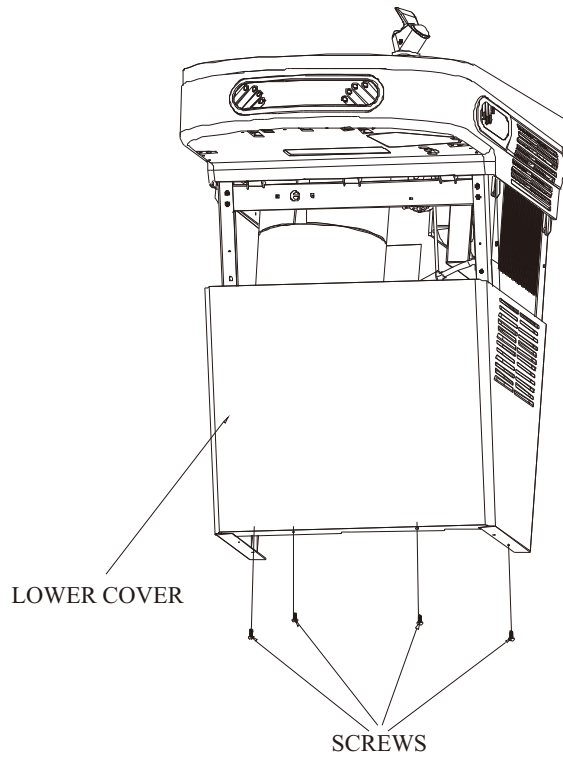
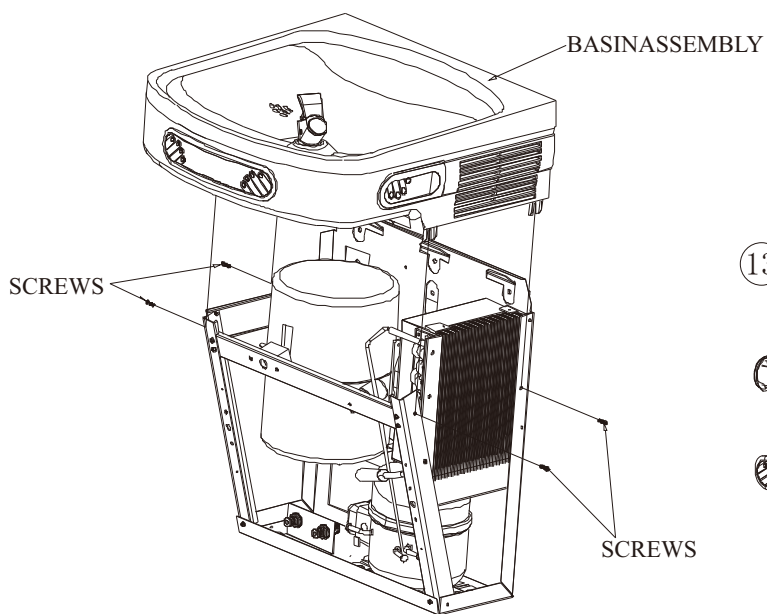
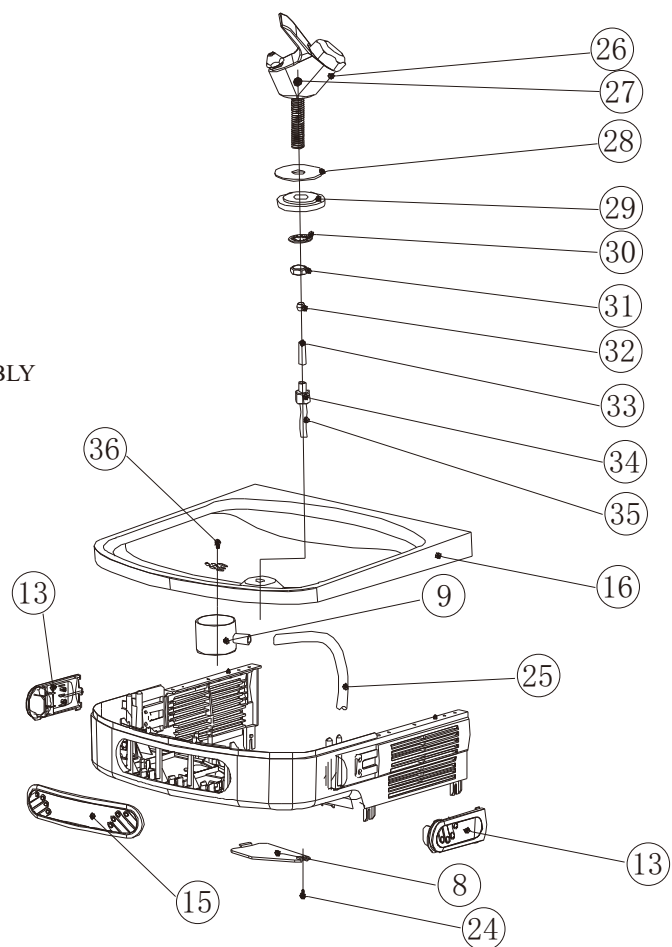

FIGURE 8
FIGURE 9
FIGURE 10
- 4) Remove the four (4) screws holding the lower front panel at the bottom of cooler. Remove the front panel by pulling straight down and set aside, SEE FIG. 8, FIG.9,FIG.10.
To access the refrigeration system and plumbing connections, remove four screws from bottom of cooler to remove the lower shroud. To remove the upper shroud for access to the pushbars, regulator, solenoid valve or other components located in the top of the unit, remove lower shroud, disconnect drain, remove four screws from tabs along lower edge of upper shroud, unplug two wires and water tube. SEE FIG.8, FIG.9 & FIG.10.